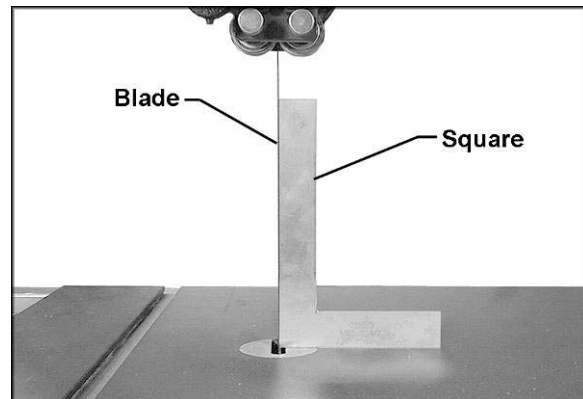

Figure 11
3. Place a square on the table and against the blade to check that the table is 90° to the blade. See Figure 11.